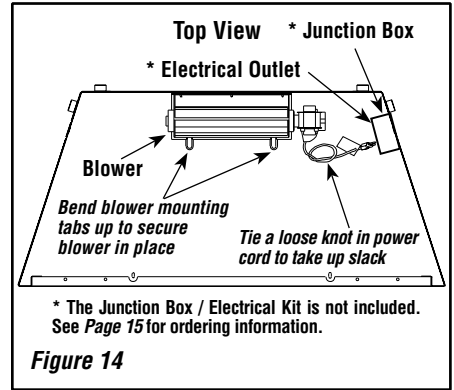

Figure 14
Step 5. Plug power cord into the electrical outlet as illustrated in **Figure 14**.